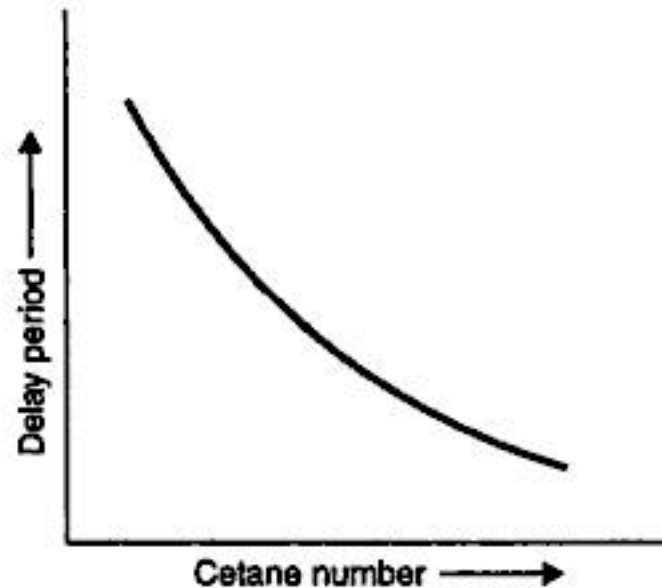

Fig. 9.20
- The relation between cetane number and delay period for a particular engine at a particular set of running conditions is illustrated in Fig 9.20.